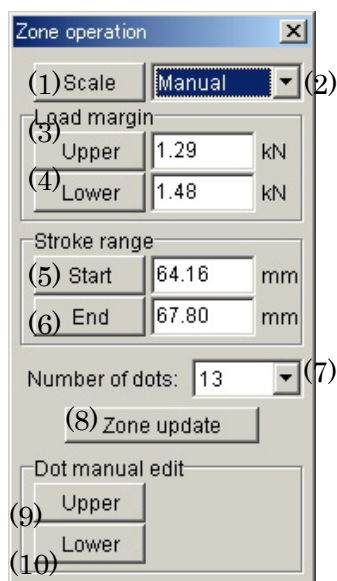

Fig. 7-4-7 Zone operation screen
3. Set up zone creation conditions. Effective stroke range, the margins of a zone maximum and a minimum, automatic creation mark, etc. are set up. Please refer to a figure 7-4-7 zone operation screen.